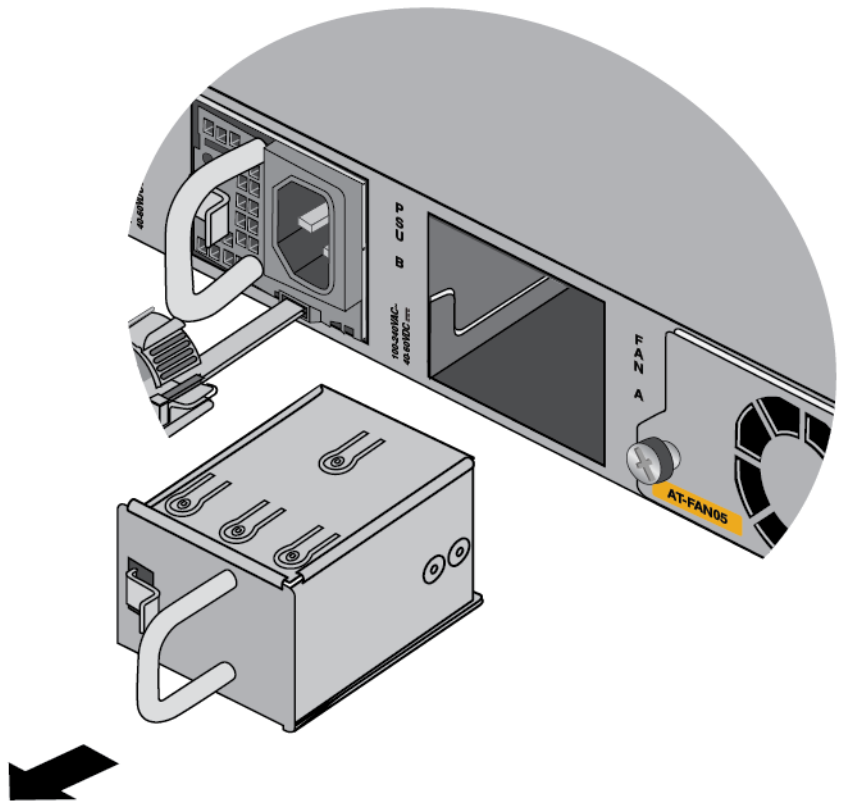

Figure 55. Removing the Blank Power Supply Panel from Slot PSU B
2. If there is already a power supply in PSU A, remove the blank panel from PSU B slot by pressing the release tab to the right and sliding the panel from the switch. Refer to Figure 55 on page 117.